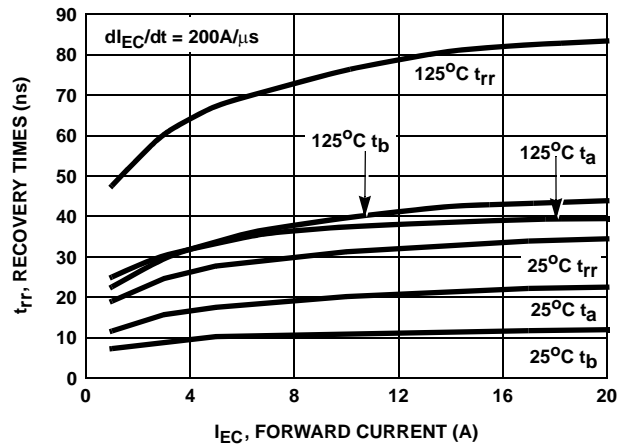

FIGURE 20. RECOVERY TIMES vs FORWARD CURRENT
- Values for two Turn-On loss conditions are shown for the convenience of the circuit designer. E_{ON1} is the turn-on loss of the IGBT only. E_{ON2} is the turn-on loss when a typical diode is used in the test circuit and the diode is at the same T_J as the IGBT. The diode type is specified in Figure 20.